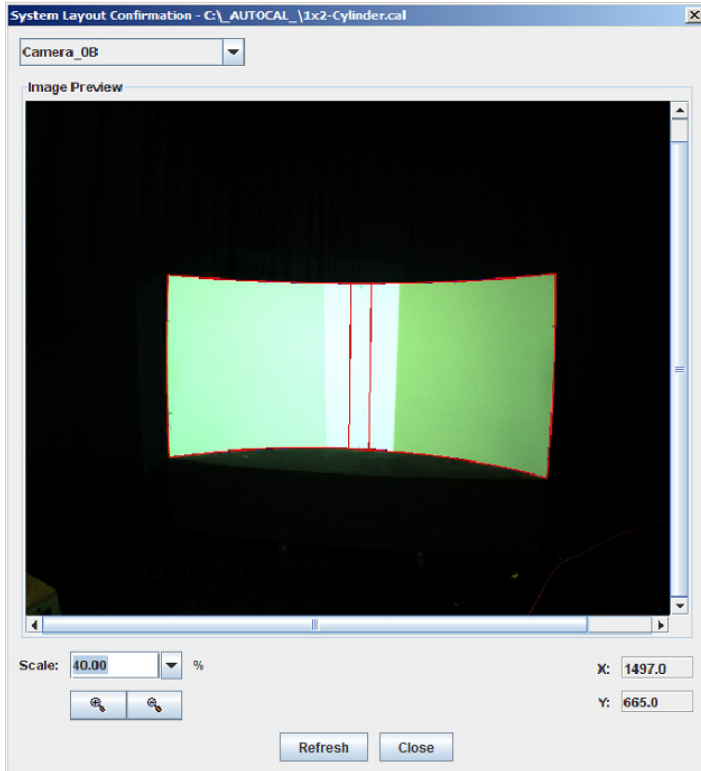

Figure 4-43 System Layout Confirmation
2. Confirm that the inside of the bounding box is within the projected images (white test pattern). By having each of the boxes within the white test pattern it confirms the screens have the correct dimensions, the overlaps are correct and the layout was defined accurately (Figure 4-43).